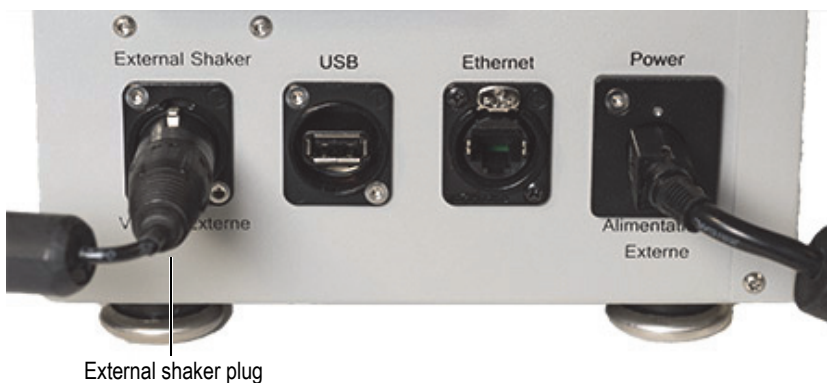

Figure 3-13 External shaker plug connected
1. Connect the external shaker plug to the External Shaker connector on the rear panel (see Figure 3-13 on page 51).